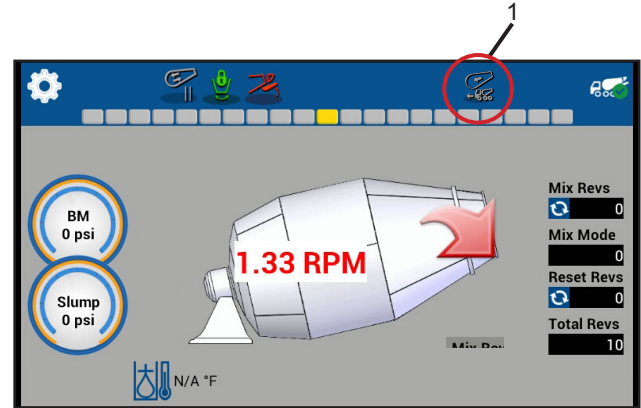

Figure 18
- Ensure the Constant Speed button indicator is not showing on the touch screen display (Figure 18, Item 1).